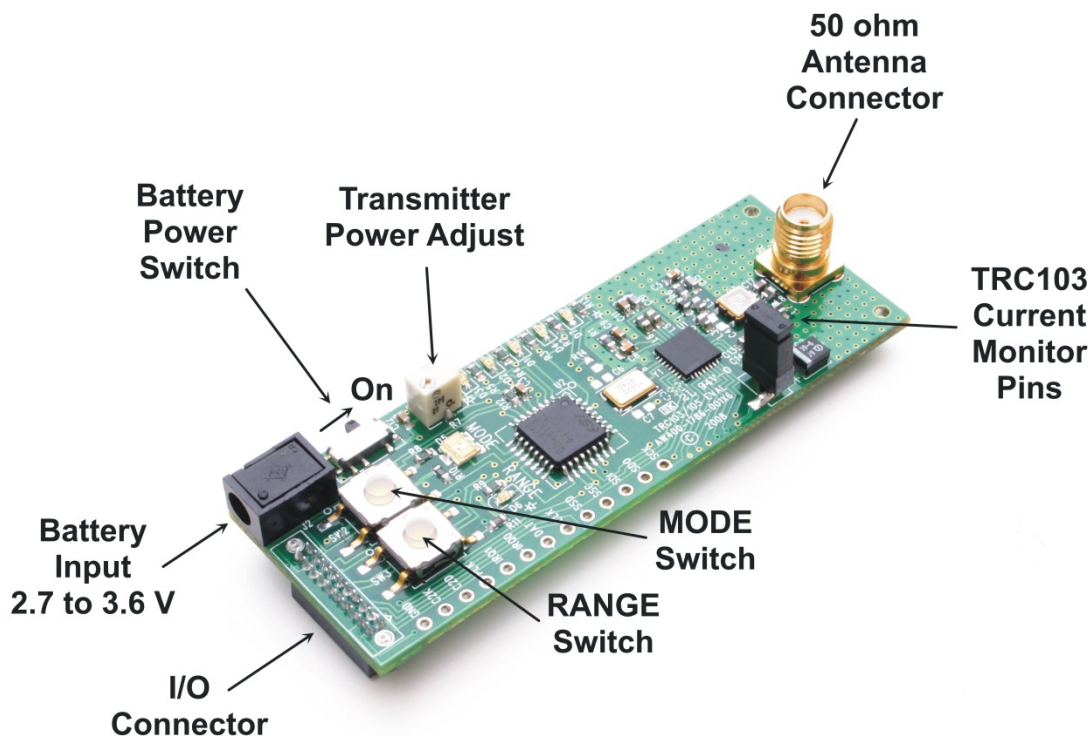

Figure 1 - DR-TRC103 Radio Board Connectors and Controls
The DR-TRC103 radio board connectors and user controls are shown in Figure 1.
2. Turn on the boards by sliding the switch as indicated in Figure 1. All LED's will flash and the MODE LED will be green.